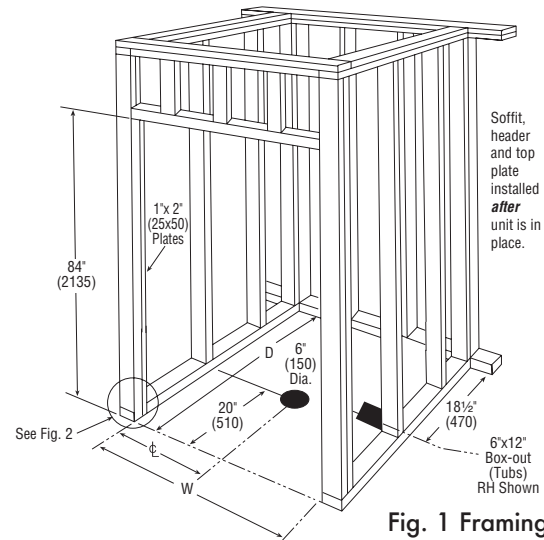

Fig. 1 Framing
1. 6" (150) diameter floor opening for 2" (50) IPS and drain connection [Fig. 1] for shower unit.
2. A 6" (150) x 12" (300) floor opening for 1 1/2" (40) o.d. plumbing for drain and overflow kit. [Fig. 1] **NOTE:** Be sure hole location matches type of unit: left and/or right hand tub/shower unit.
3. 1" (25) x 2" (50) mounting plates installed on front corner posts and on front header [Figs. 1 & 2].
5. Place unit into alcove — do not push — against 1 " (25) x 2 " (50) side mounting plates. Pushing or "walking" unit may crack or break lower corners.
6. Level unit for proper drainage. Use a 3' (915) long level on top of dam and on front face. Shim where necessary to assure level unit, or depress grout mounds until level.
7. Install soffit, header and 1 " (25) x 2 " (50) plate above unit, as shown in Fig. 1. Make sure plate lines up with the mounting screw holes at the top of the unit.
8. Using holes provided, screw [do not nail] unit to mounting plates. For wood framework, use #8 x $1\frac{1}{2}$ " (40) flathead wood screws. For metal framework, use #8 x $1\frac{1}{2}$ " (40) sheet metal screws. Start at holes at lower left and right, proceeding upward alternately on each side and across the top. Drive screws snugly but do not overtighten. **CAUTION:** Do not nail into face of mounting flange. Do not strike flange with any tool. Striking unit may cause irreparable damage.